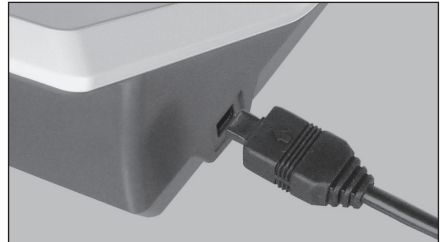

Fig. 1
- 1) Position the AC Adaptor plug so that ➔ mark is on its bottom face, then insert it to the AC Adaptor inlet on the side of the Control Unit. (Fig.1)